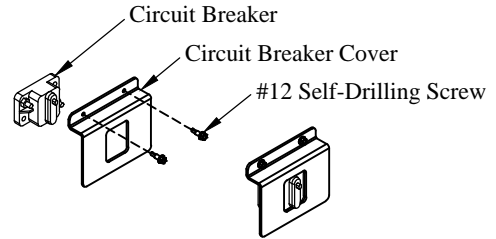

Figure 18: Circuit breaker cover.
13. **Install** the plastic circuit breaker cover over the circuit breaker using the supplied #12 self-drilling screws (Figure 18).